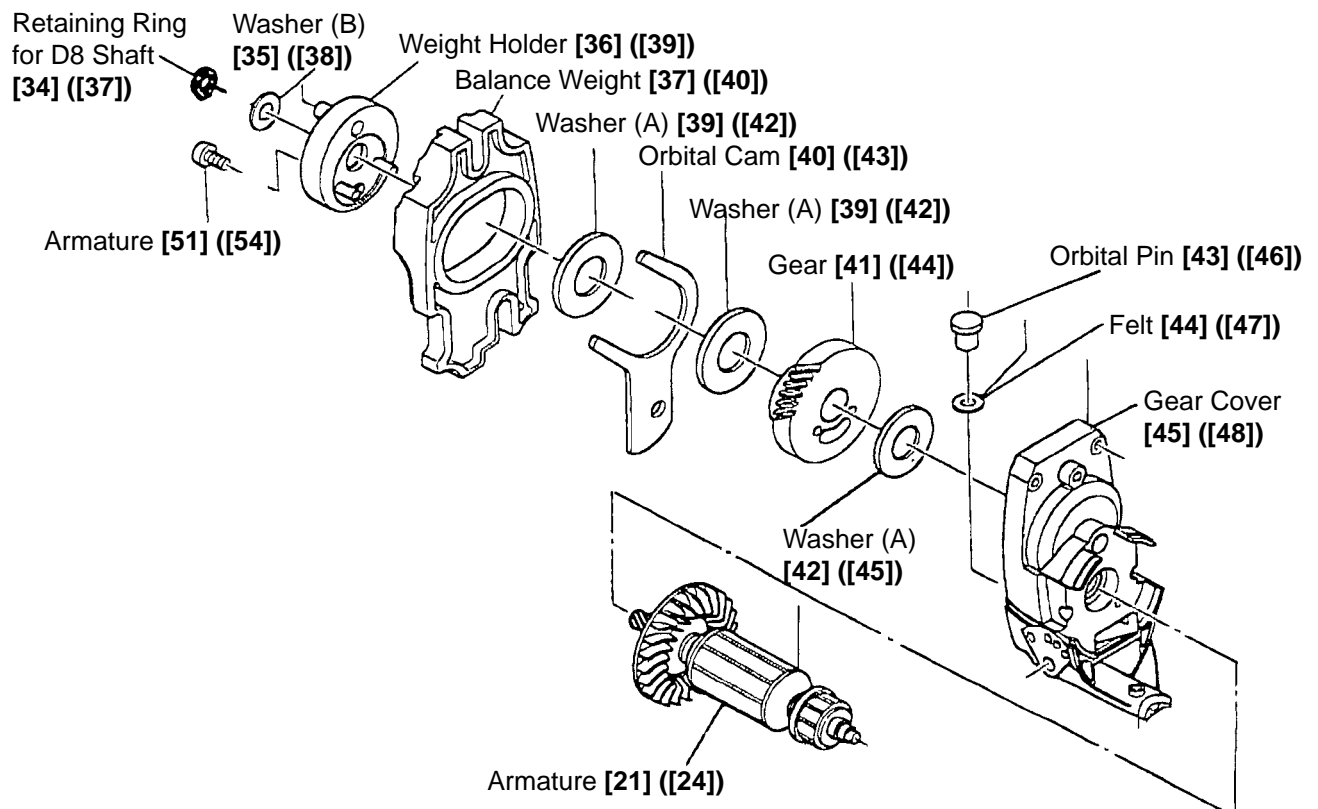

Fig. 11
(7) Disassembly of the Weight Holder [36] ([39]) and Armature [21] ([24]) (Fig. 11)